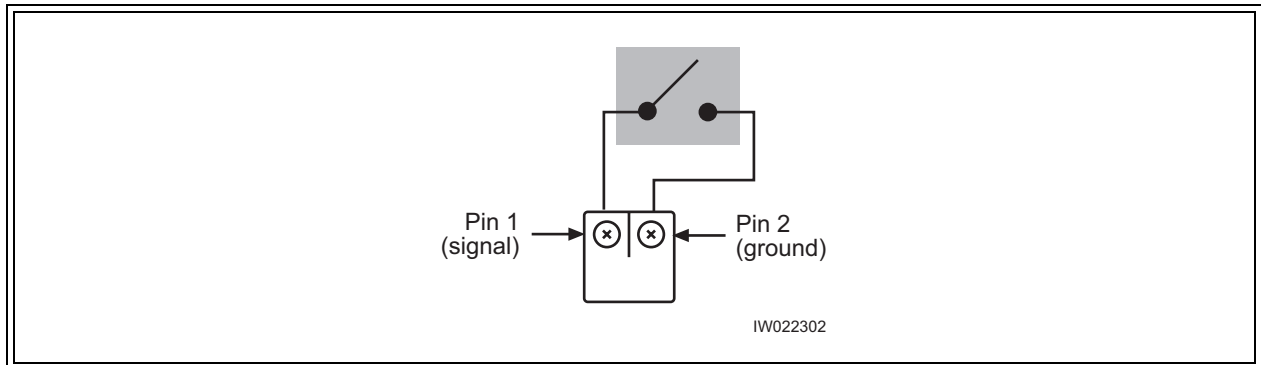

Figure 2-32 External Alarm Plug
- 2 Using the details provided in Figure 2-32, connect the normally-open alarm inputs from the external equipment to the external alarm plug.